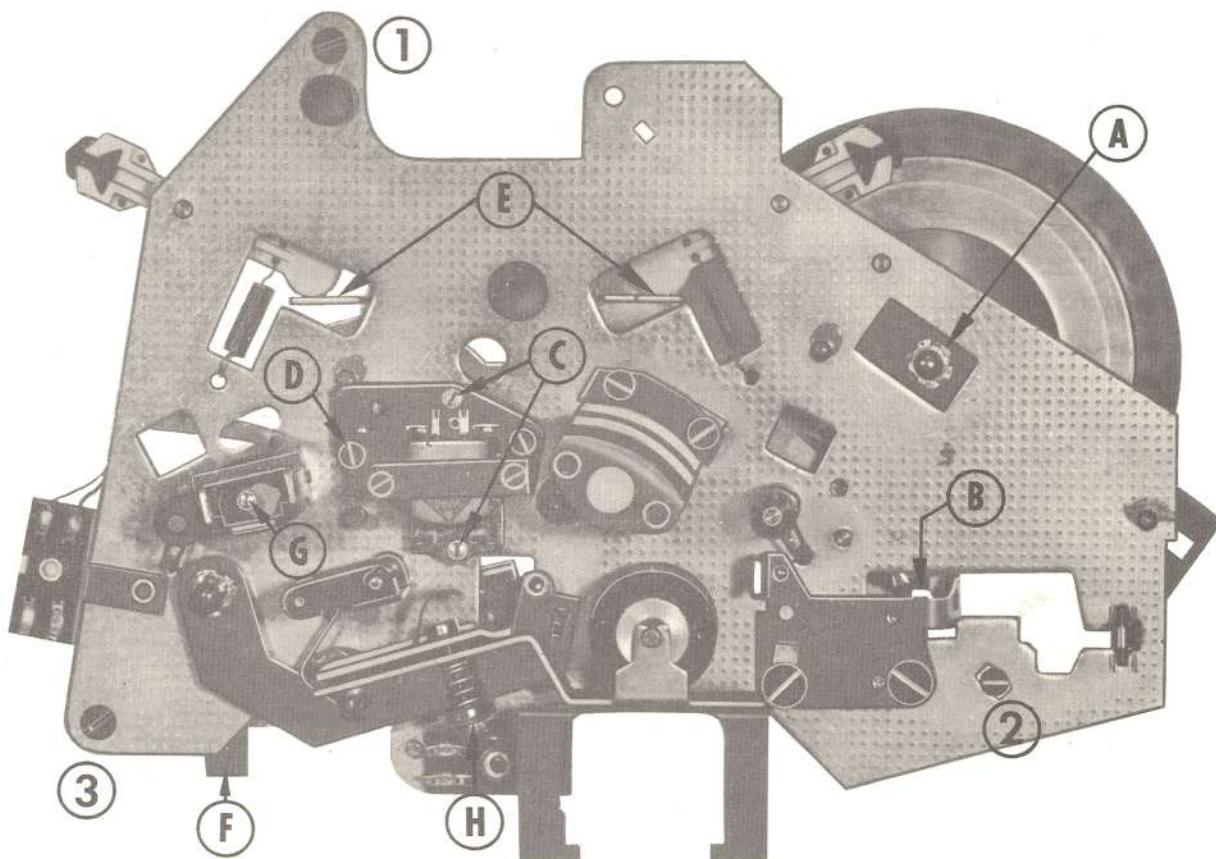

Fig. 5 Depiction of the head carrier plate
Take off the right take-up plate and screw out the three fixing screws 1, 2 and 3 (Fig. 5) of the head carrier plate. Pull off the head carrier plate upwards from the drive capstan (the plastic prismatic bearing of the drive capstan remains in the head carrier plate).
Remount the head carrier plate onto the drive capstan. Check that the plate rests securely on its supports and that the lever of the pressbutton assembly lies in front of the slider (F) of the plate. Tighten the screws in the order 1, 2, 3 as specified on Fig. 5. If the dust protection ring has become displaced, press it down only to such an extent that a clearance of about 0.5 mm still remains with respect to the prismatic bearing in the head carrier plate. The dust protection ring must not touch the upper edge of the rubber roller.